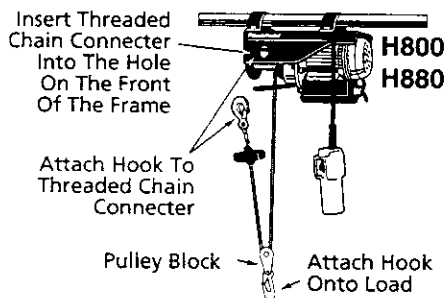

Figure 9
1. Insert the threaded chain connector into the hole on the front of the frame and tighten securely (See Figure 9).